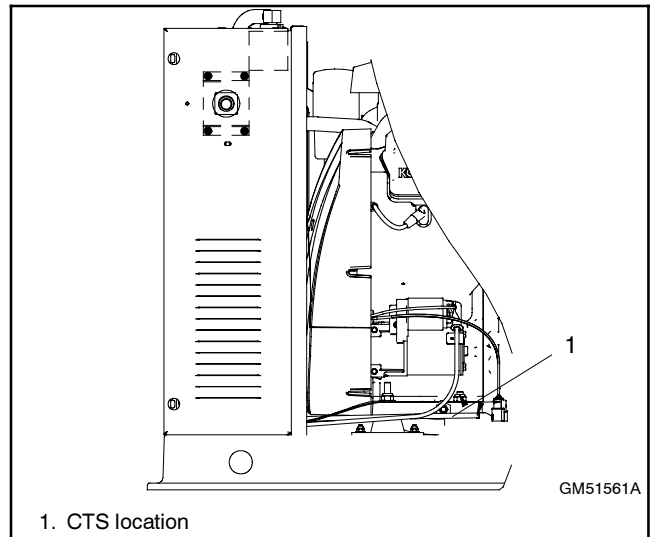

Figure 5-27 CTS Location
The coolant temperature sensor (CTS) is used to monitor engine temperature for the high engine temperature fault shutdown (HE). See Figure 5-27 for the coolant temperature sensor location. Set the generator set master switch to the OFF position and allow the generator set to cool. Disconnect the CTS and use an ohmmeter to measure the resistance across the sensor. The sensor resistance varies with temperature and should be within the values shown in Figure 5-28. If the resistance is very low (indicating a short circuit) or very high (indicating an open circuit) replace the CTS.